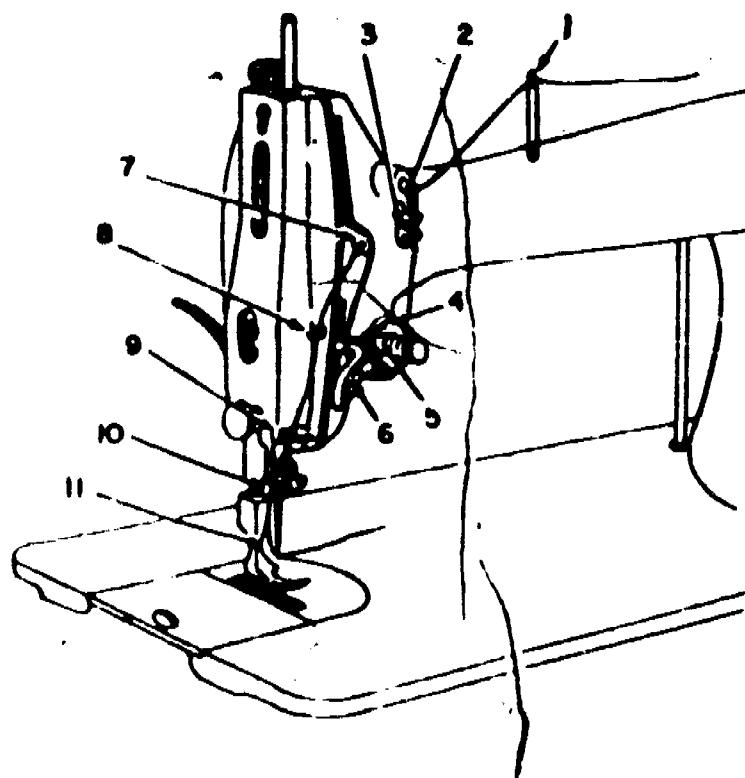

Figure 21. Threading Points.
b. Thread the needle. Pass the thread through the following points (see figure 21).
- (1) Top hole in left-hand spool pin.
- (2) Top hole in thread retainer.
- (3) Bottom hole in thread retainer.
- (4) Tension disks.